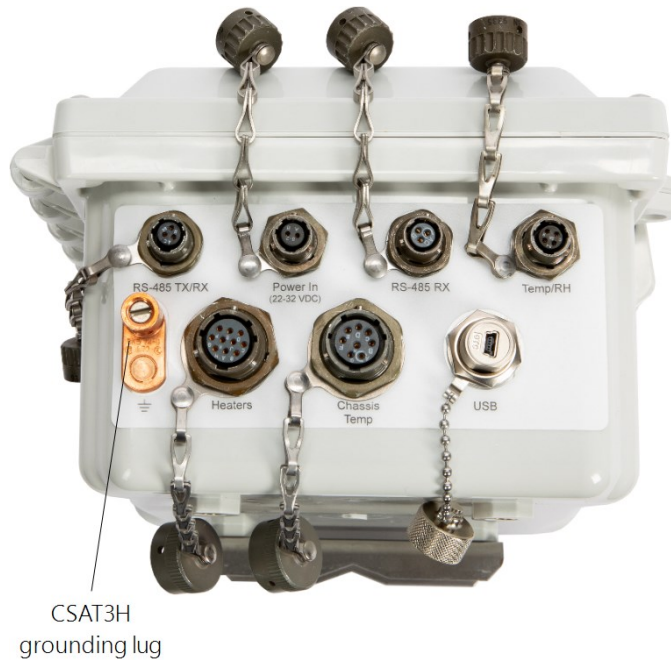

FIGURE 6-12. Grounding lug and connectors on bottom of CSAT3H heater controller box
The CSAT3BH, data logger enclosure, and CSAT3H heater controller box, must be earth grounded to the same grounding rod. They should be grounded from their grounding lugs (shown in FIGURE 6-11 (p. 41) and FIGURE 6-12 (p. 41), respectively) as described generally in the following steps.
1. Ground the CSAT3BH, data logger enclosure, and the CSAT3H controller box to the tower by attaching a user-supplied, heavy-gauge wire from the copper grounding lug on the back of the CSAT3BH block and the CSAT3H controller box (see FIGURE 6-11 (p. 41) and FIGURE 6-12 (p. 41)).
Using FIGURE 6-12 (p. 41) as a guide, make the following connections to the CSAT3H heater controller box.